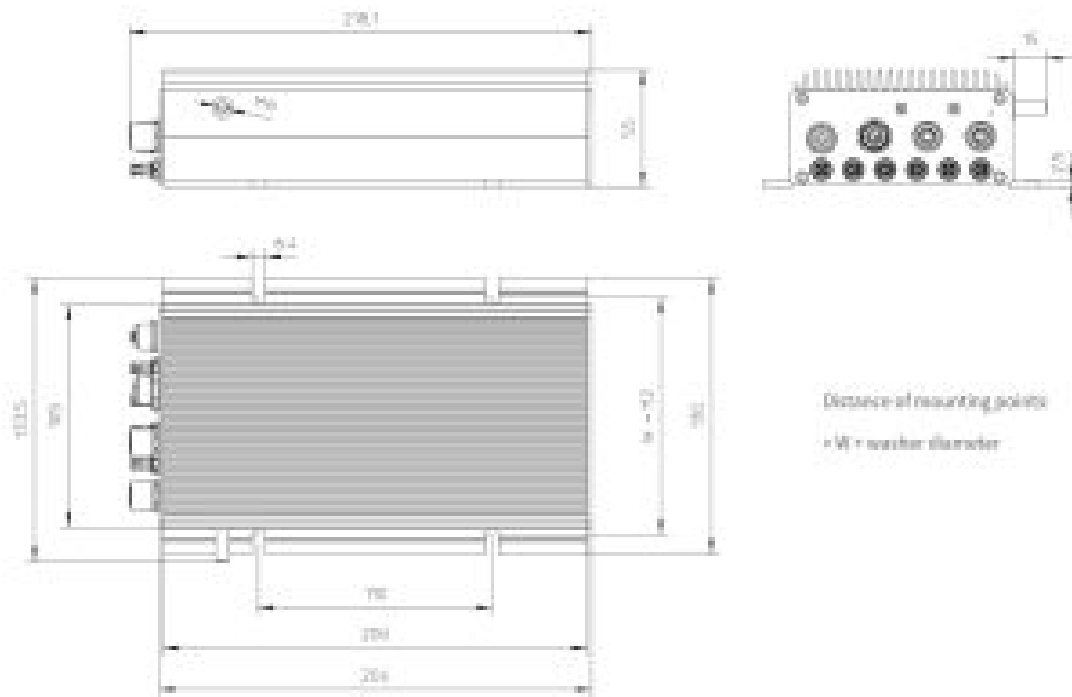

Figure 5 Dimensions of the CyBox AP 2 and CyBox LTE 2 Housing
- For fixation use M6 screws of sufficient length with additional M6 washers. The drawing in Figure 5 shows the outer dimensions of the housing, including the position of the mounting cutouts.